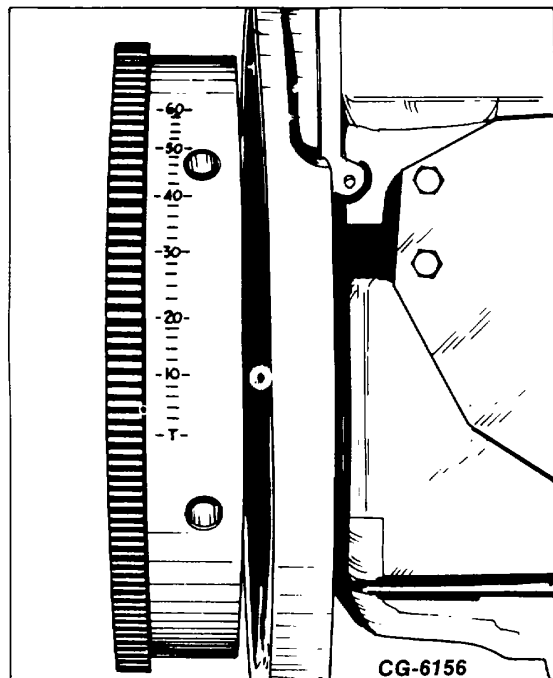

Figure 37. - Timing Marks on Flywheel
1. Remove the valve cover. Turn the crankshaft until the number one piston is on the compression stroke and the timing pointer on the front cover is in line with the TDC mark (pin) on vibration damper or flywheel (as shown in Fig. 37).